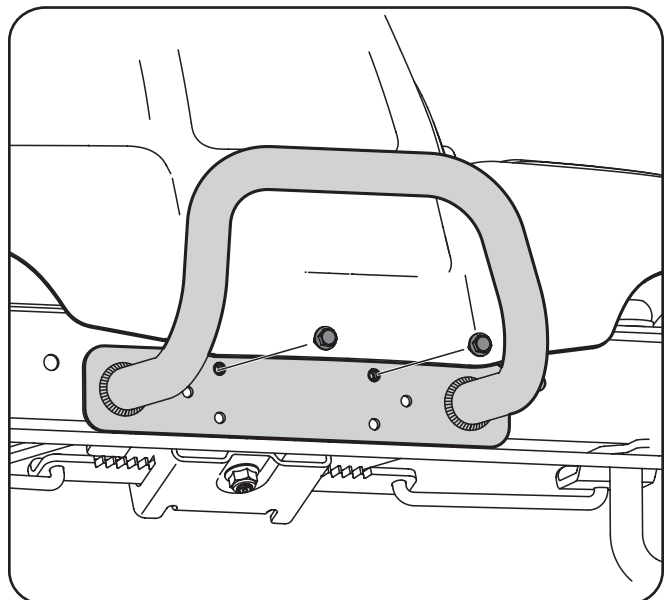

Figure 3-13
1. Remove the two screws as shown in Figure 3-13.
2. Position the bumper over the mounting holes and secure using the hardware removed in Step 1, as shown in Figure 3-13.